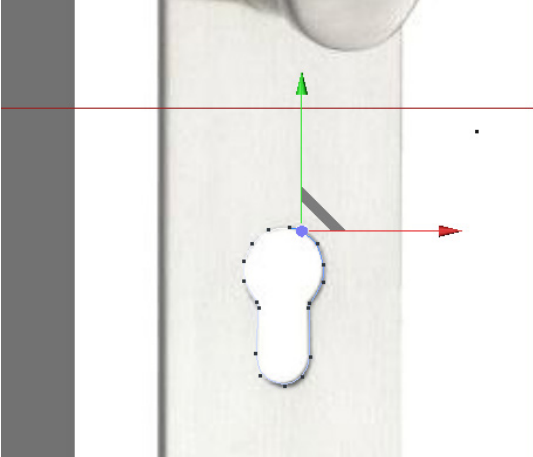

Figure 2-12 *Shape of the keyhole*
2. In the Front viewport, draw the shape of the keyhole on the reference image, as shown in Figure 2-12. You will notice that **Spline** is also added to the Object Manager.
3. Invoke the **Move** tool from the Command Palette and select the points of **Spline**. Next, edit the shape of **Spline** to give it the shape of a keyhole, as shown in the reference image, refer to Figure 2-12. You can also use the **Pen** tool to move and edit points on the line.